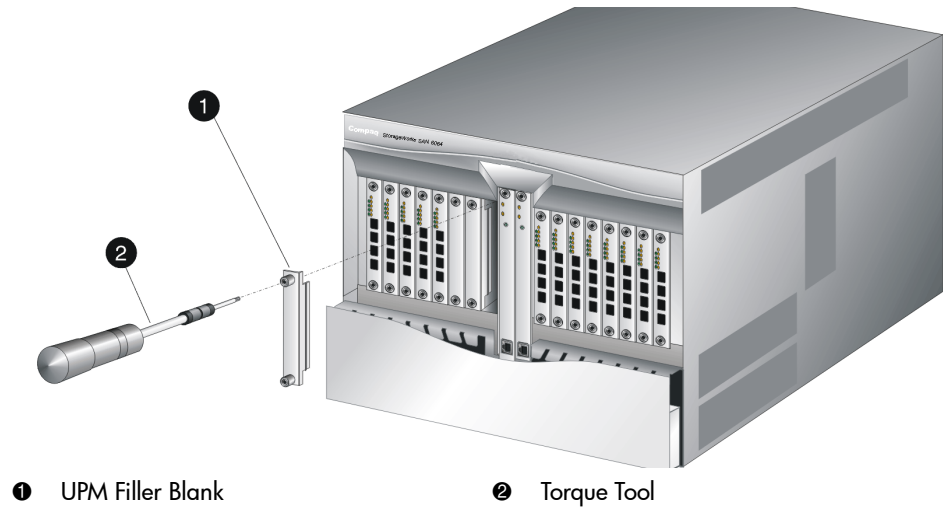
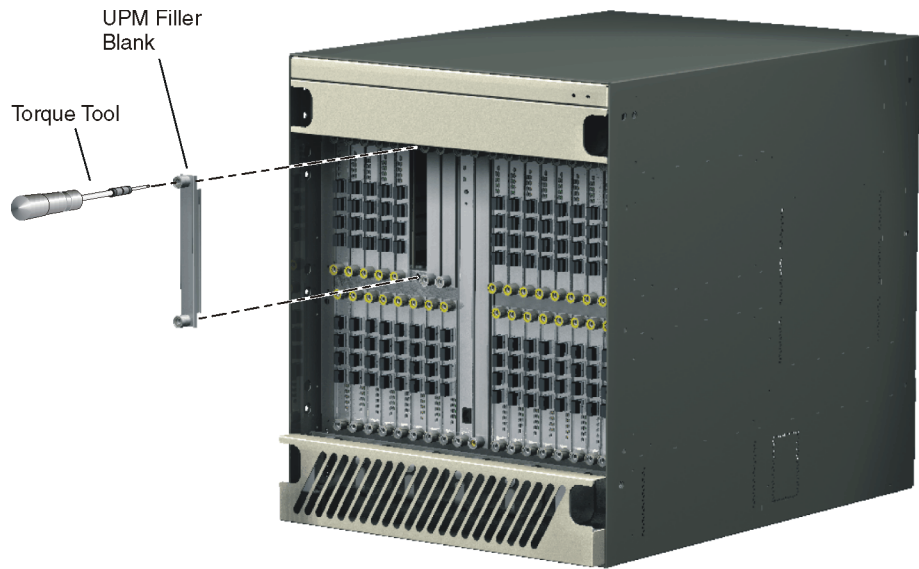

Figure 4: Director 2/64 UPM filler blank removal
Figure 5: Director 2/140 UPM filler blank removal
3. Insert the torque tool into each locking Allen screw, as shown in Figure 4 for the Director 2/64 and Figure 5 for the Director 2/140. Turn each screw counter-clockwise until the spring releases and the tool turns freely.